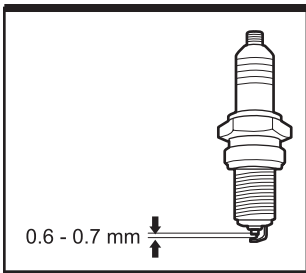

Fig. 20b
6. Check the spark plug gap; it should be 0.6 - 0.7 mm. (See Fig. 20b)